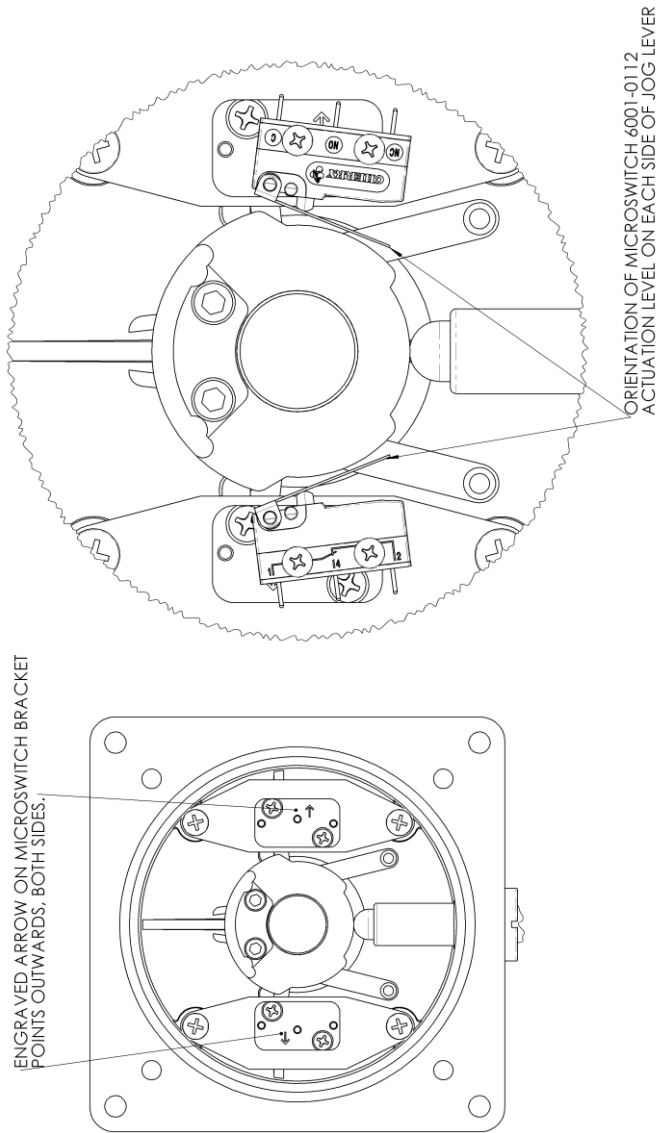

Figure 20: Placement of microswitch and mounting bracket inside jog lever housing
7. Refer to Figure 20 and note the engraved arrow on the microswitch bracket ① is facing outwards on both sides of jog lever.
8. Apply Loctite 243 to X2 Flat head screws ④.
9. Install bracket ① with screws ④ into the jog unit ensuring the engraved arrow is correctly orientated.
10. Refer to Figure 20 and note the orientation of the microswitch ② for the side of the jog unit that the microswitch is being replaced on.
11. Place the first microswitch ② on top of the bracket ① orientating the microswitch so the actuation lever is as shown in Figure 20.
12. Place X2 spacer washers ⑤ on top of the first microswitch lining up with the screw holes.
13. Place the second microswitch ② on top of the spacer washers ensuring the same orientation as the first microswitch.
14. Apply Loctite 243 to X2 pan head screws ③.
15. Use X2 screws ③ with 2X washers ⑥ and tighten to the torque specified in Table 14 to secure the microswitches ②.